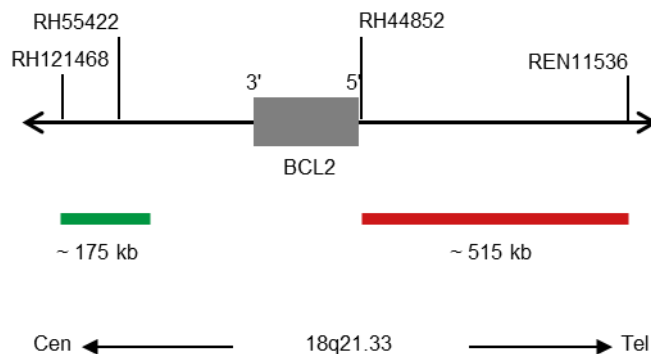

Fig. 1: SPEC BCL2 Probe map (not to scale)
- Digoxigenin-labeled polynucleotides (~0.50 ng/ μ l), which target sequences mapping in 18q21.33* (chr18:60,415,418-60,589,273) proximal to the BCL2 breakpoint region (see Fig. 1).
- Dinitrophenyl-labeled polynucleotides (~0.75 ng/ μ l), which target sequences mapping in 18q21.33* (chr18:60,994,528-61,507,691) distal to the BCL2 breakpoint region (see Fig. 1).